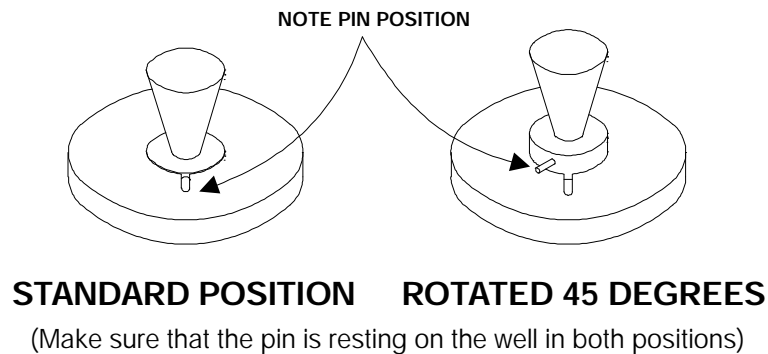

Figure 3 Filter Holder Positions
4. **Adjust the HI.** Select the wavelength to be used then lift the dosimeter holder slightly from the standard index position, rotate it 45 degrees then release it. This blocks the light path and simulate an infinite OD (see Figure 3). Adjust the HI knob to display '9999' (NOT 0.999). If the display reads 'HI', turn the HI knob counterclockwise. If it reads a number below 9999, turn it clockwise. This sets 0% transmission or infinite OD.